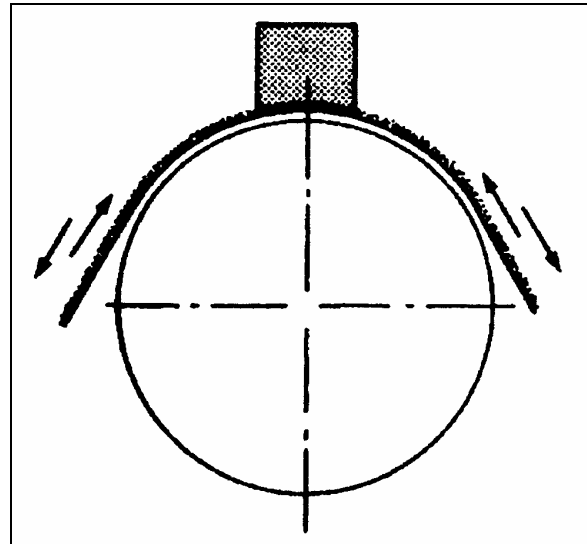
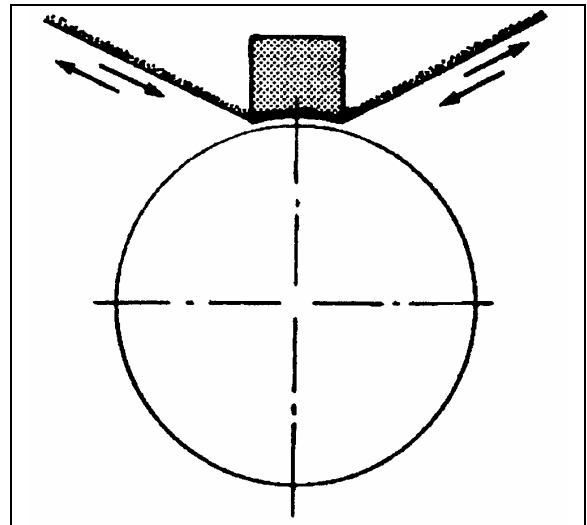

FIGURE 25: PROPER GRINDING TECHNIQUE
FIGURE 26: IMPROPER GRINDING TECHNIQUE
- a) Grinding with abrasive cloth (60 grit sandpaper) applied to the commutator must be done by hand. With the new brushes installed in brush holders and pressing against the abrasive cloth, rotate the armature (by hand) until satisfactory seating of each brush is achieved (Refer to figure 25). It is necessary to avoid raising the cloth under the brushes otherwise it would result, after grinding, to reduce and badly definite surfaces (Refer to figure 26).